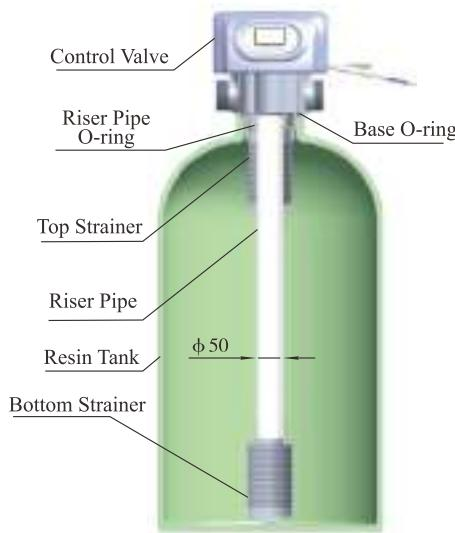

Figure 1-1
①The softener should be located close to drain.
②Ensure the unit is installed in enough space for operating and maintenance.
③Brine tank need to be close to softener.
④The unit should be kept away from the heater, and not be exposed outdoor. Sunshine or rain will cause the system damage.
⑤Please avoid installing the system in one acid/alkaline, magnetic or strong vibration circumstance, because above factors will cause the system disorder.
⑥Do not install the filter or softener, drain pipeline in circumstance which temperature may drop below 5°C, or above 45°C.
⑦Install the system in the place where with the minimum loss in case of water leaking.
①Install control valve
a. As the Figure 1-1 shows, select the riser pipe with 50mmOD, take GB standard riser pipe as an example glue the riser pipe to the bottom strainer and put it into the mineral tank, cut off the exceeding tube out of tank top opening and round it. Plug the riser tube in case of mineral entering.